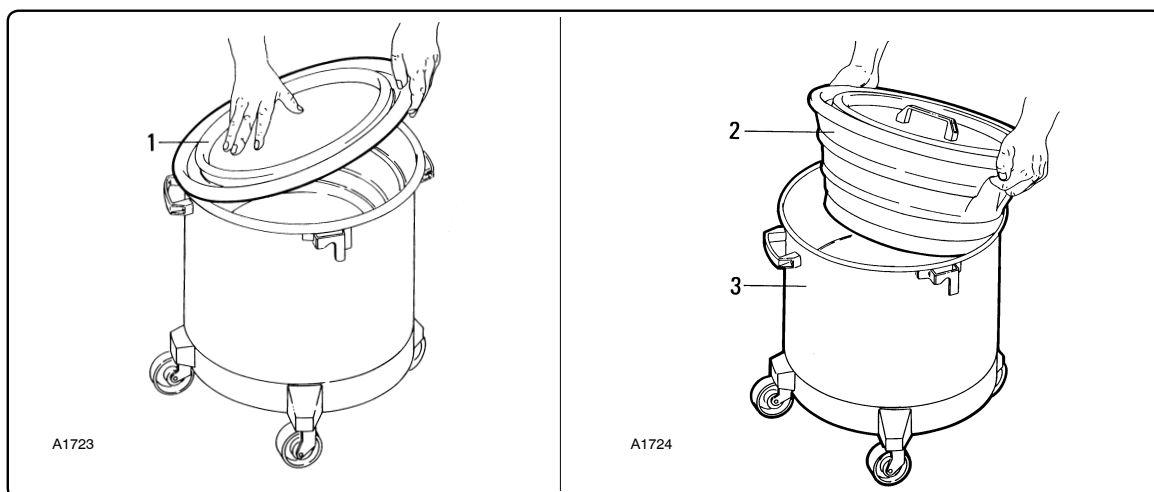

Fig. 6.9.1
- B. PVC shaking container fitted inside container "2" for dust collection (fig. 6.9.1);
6.9 - Emptying the container (version C - K1) - fig. 6.9.1